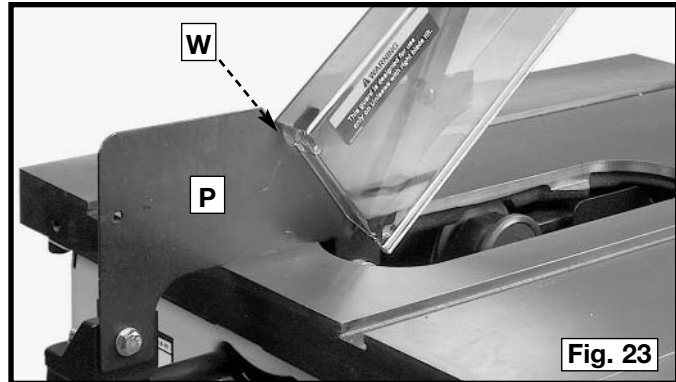

Fig. 23
**IMPORTANT:** The splitter (P) Fig. 23, features a notch (W) cut into the top edge. Raise the front of the clear blade guard (P) Fig. 23, until the rear edge of the guard slips into notch (W) of the splitter. This notch enables the blade guard to stay in the raised position and makes changing blades easier.